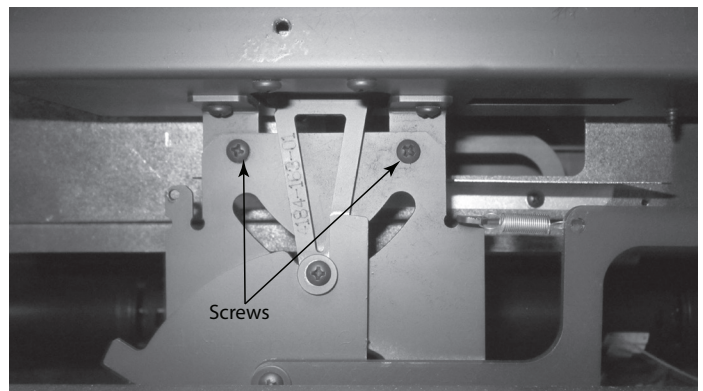

**Figure 4.35 Screw Timer to Air Chamber**
12. Screw the timer to the air chamber. See Figure 4.35.